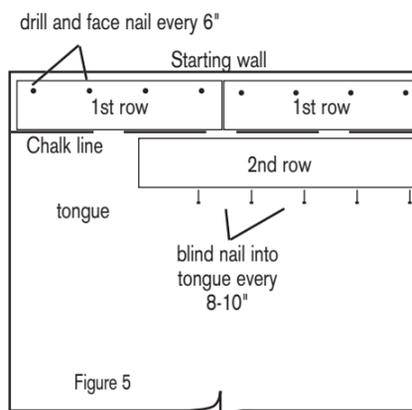

Figure 5
- Tramex Concrete Moisture Encounter meter (figure 5). Moisture readings should not exceed 4.5 on the upper scale. (Figure 5 shows an unacceptable reading of over 4.5)
- Use the longest, straightest boards available for the first two rows. Align tongue of first row on chalk line. The groove should be facing the starting wall. Pre-drill the nail holes 1/2" from back (groove) edge, 1-2" from each end, and at 6" intervals at a 45-degree angle down through the nailing "pocket" on top of the tongue (figure 5).